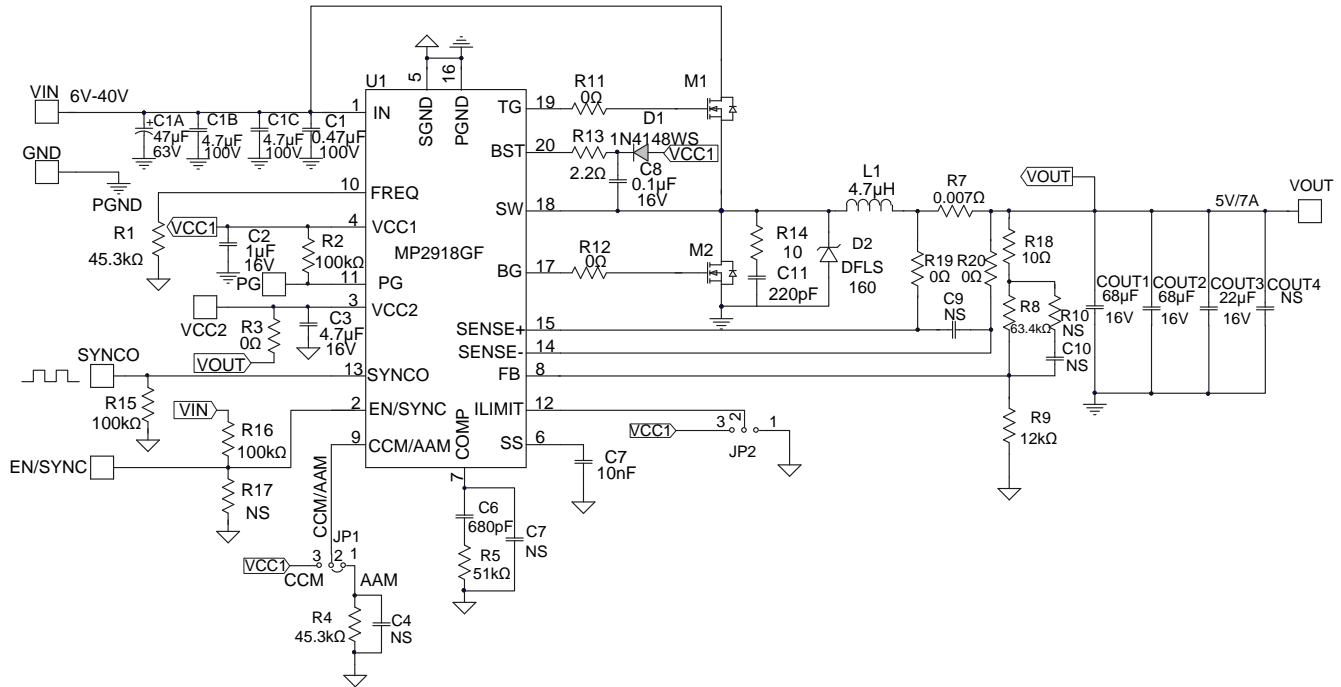

Figure 12: 5V Output Application Circuit for TSSOP Package
The diode between SW and PGND (shown as D2 in Figure 12) is used to absorb spikes, store charges during dead time, and protect the body diode of the LS-FET. Considering the size and power loss during the dead time, a 1 - 3A Schottky diode is recommended.
6) The recommended PCB layout is based on Figure 12.